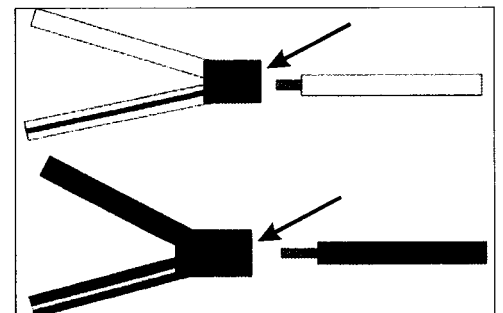

Figure 3
8. Twist bare copper conductors together and install both wires into the large end of a step heat shrink butt connector. This interconnects the yellow wire and yellow w/black stripe wires going rearward. (Figure 3)
12. Strip back 5/16" of the wire insulation on the yellow wire coming from the front of the chassis and connect it to the open end of the butt connector for the yellow and yellow w/black stripe wires interconnected in steps 7 & 8. (Figure 3)
13. Strip back 5/16" of the wire insulation on the dark green wire coming from the front of the chassis and connect it to the open end of the butt connector for the dark green and dark green w/white stripe wires connected in steps 9. (Figure 3)